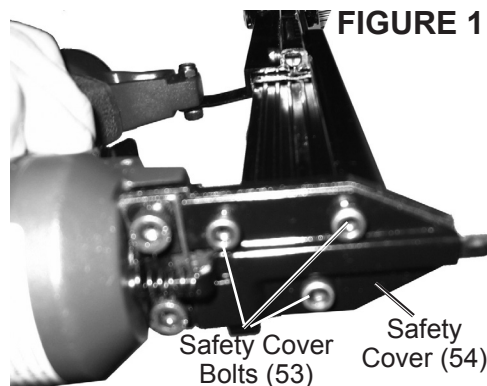

FIGURE 1
3. Remove all three Safety Cover Bolts (53) on the Safety Cover (54) - see *Figure 1*.